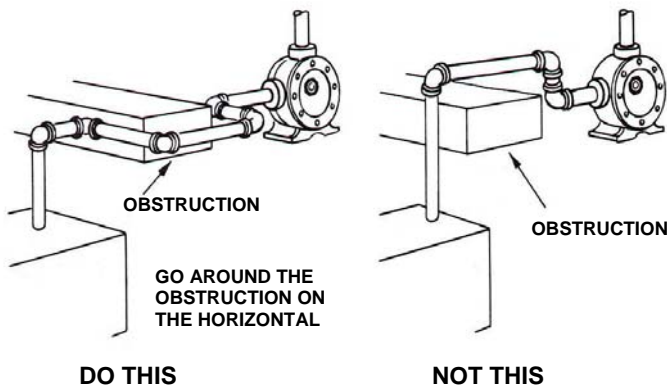

FIGURE 10
- When approaching an obstacle in the suction or discharge line, go around the obstacle instead of over it. Going over it creates an air pocket. See Figure 10.